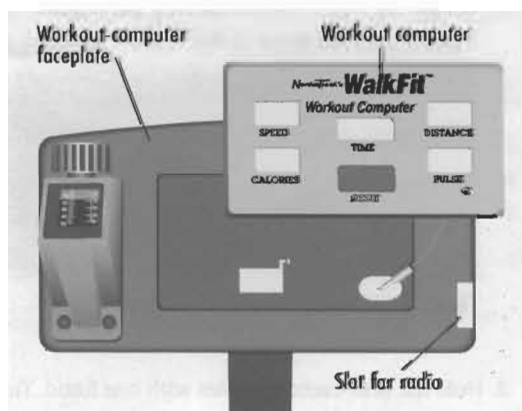

Figure 11
7. Set the computer into the opening in the workout-computer faceplate (Figure 11).